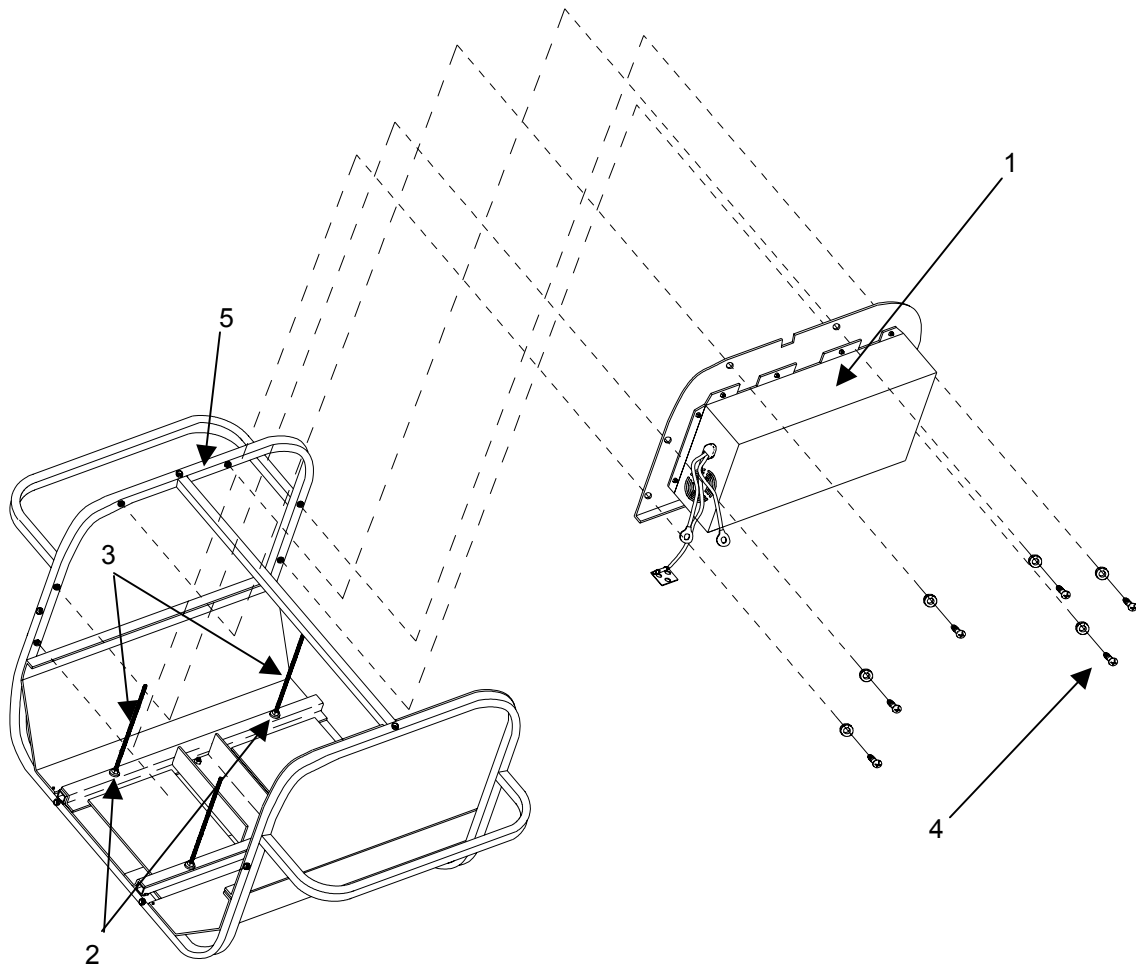

Figure 3. Replace the Battery Charger
1. To replace the internal battery charger (**figure 3, item 1**), remove batteries as detailed in WP 0034 00.
2. Loosen the two hex nuts (**figure 3, item 2**) at the base of the threaded shafts (**figure 3, item 3**) just behind the charger assembly.
3. Remove the two shafts (**figure 3, item 3**) (it is not necessary to remove rear shafts), making sure not to drop the nuts and washers under the battery pack base plate that secure the shafts to the frame.
4. Remove the six retaining screws and washers (**figure 3, item 4**) that secure the battery charger (**figure 3, item 1**) to the battery pack frame (**figure 3, item 5**).
5. Remove the defective charger assembly (**figure 3, item 1**).
6. Install a new charger (**figure 3, item 1**) in place on the battery pack frame (**figure 3, item 5**).
7. Secure in place with the six retaining screws and washers (**figure 3, item 4**).
8. Install two threaded shafts (**figure 3, item 3**) removed earlier and secure.